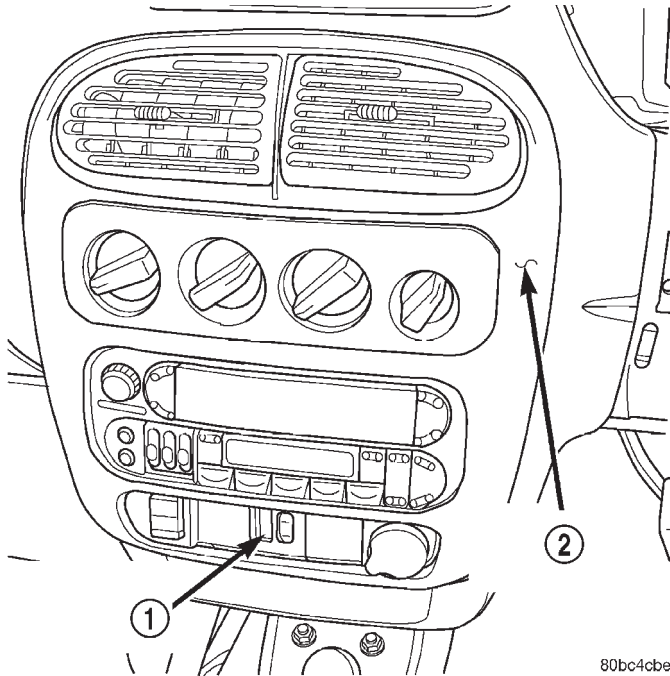

Fig. 2 Headlamp Leveling Switch Position
(1) Rotate the A/C outlet registers to the full down position. Grip each outlet at its outboard end and gently over-rotate to release from its pivot point. Swing outlet straight out and remove by hand (Fig. 2).
(2) Remove the (4) HVAC control knobs by pulling straight off the switch shaft.